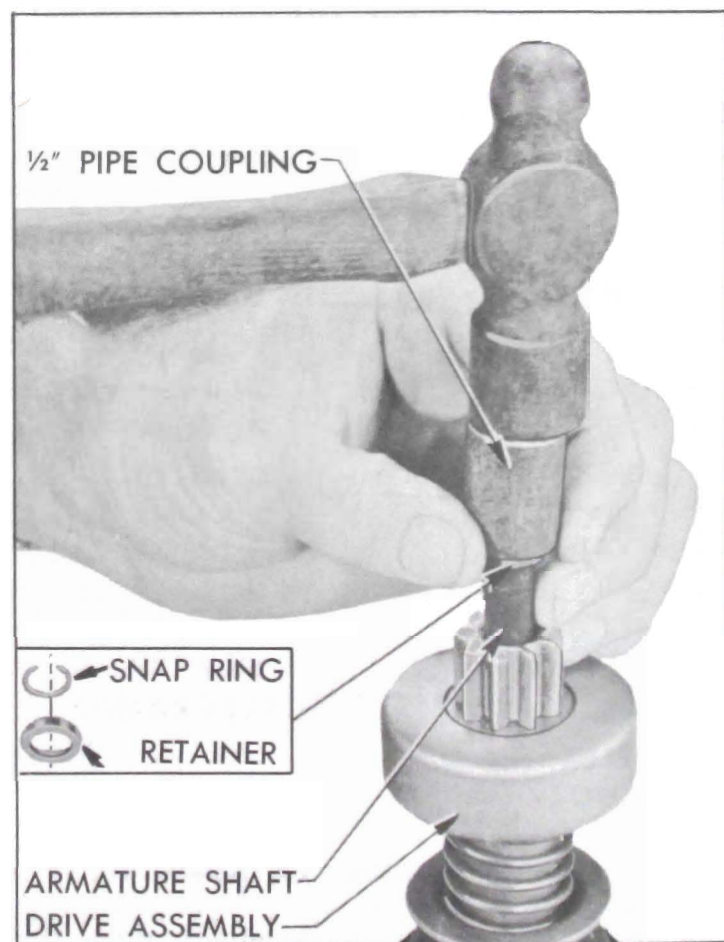

Figure 10-32—Removing Pinion Stop Retainer and Snap Ring
5. To remove drive assembly from armature, place a metal cylinder of proper size ($\frac{1}{2}$ " pipe coupling will do) over end of shaft to bear against the pinion stop retainer. Tap retainer toward armature to uncover snap ring. See figure 10-32. Remove snap ring from groove in shaft, then slide retainer and pinion drive assembly from shaft. Remove assist spring (364 engine only).